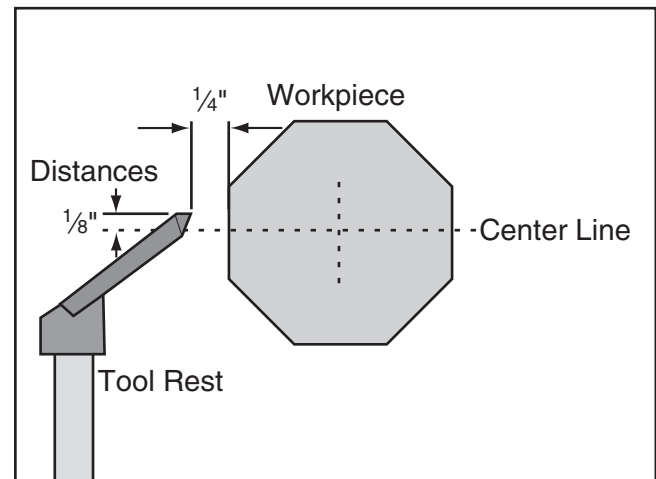

Figure 24. Tool rest position relative to workpiece.
2. Position the tool rest approximately $\frac{1}{4}$ " away from the workpiece and approximately $\frac{1}{8}$ " above the workpiece center line (see **Figure 24**).